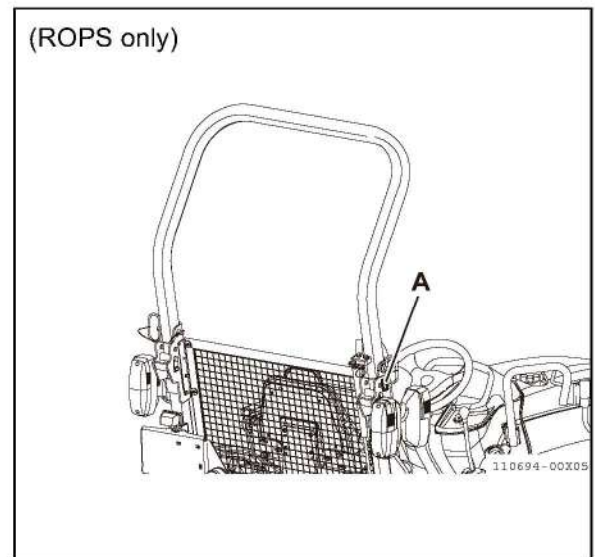

Fig 2-3
- Roll-Over Protective Structure (ROPS) (Fig 2-3)
- (A) Tractor identification plate with tractor serial number
- (B) Engine serial number